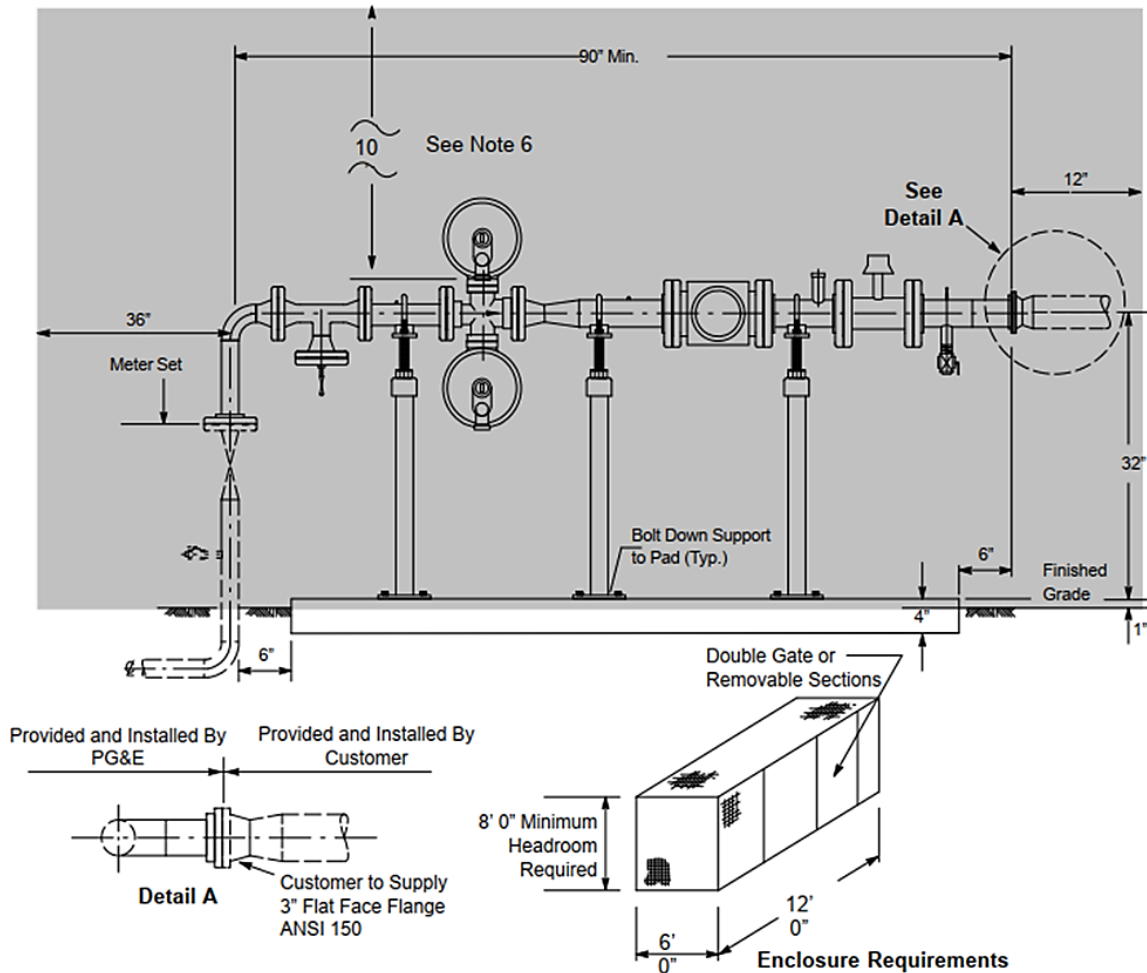

Figure 7. Typical 5M or 7M Rotary Gas Meter Set
- (3) It is preferred that rotary meter sets be away from the building. If the meter set is built next to a building wall, place the vertical leg of the riser and the houseline 20 inches from the wall. This ensures that the meter set components are built in a straight line. The Company may approve the riser and houseline to be farther out from the building wall on a case-by-case basis.
- (4) The finished grade must be below the bury-line marking on the service riser.
- (5) PG&E's weld elbow is optional.
- (6) The meter set must be clear of any sources of ignition or openings into the building. The riser must be a minimum of 36 inches from sources of ignition, from any openings into the building, or any wet facility. This clearance area extends 10 feet above the highest regulator vent, 36 inches below the lowest regulator vent, and 12 inches beyond the farthest PG&E meter-set equipment.
- D. Figure 7 represents a rotary gas meter with 3001 through 7000 scfh at an approved delivery pressure.
E. Notes in reference to Figure 7:
- (1) Customers must provide a 78-inches x 36-inches x 4-inches concrete pad with minimum #4 rebar that is typically 12-inches grid on center.
- (2) Customers must provide a 3-inch ANSI 150 flat-face flange to connect to PG&E facilities.
- (3) It is preferred to have the rotary meter sets away from the building. If the meter set is built next to a building wall, place the vertical leg of the riser and the house line 20 inches from the wall. This ensures that the meter set components are built in a straight line. The Company may approve the riser and house line to be farther out from the building wall on a case-by-case basis.